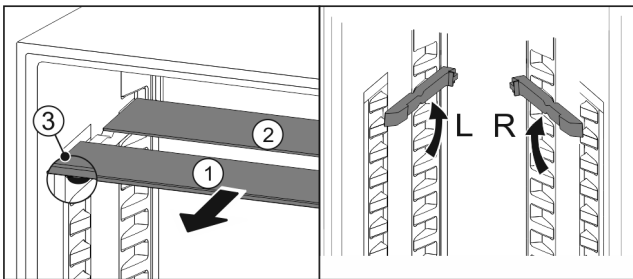

Fig. 145
- ▶ Pull the glass panels out Fig. 145 (1) from the front, one at a time.
- ▷ The glass panel Fig. 145 (1) and trim strip are at the front.
- ▷ The stops Fig. 145 (3) point down.